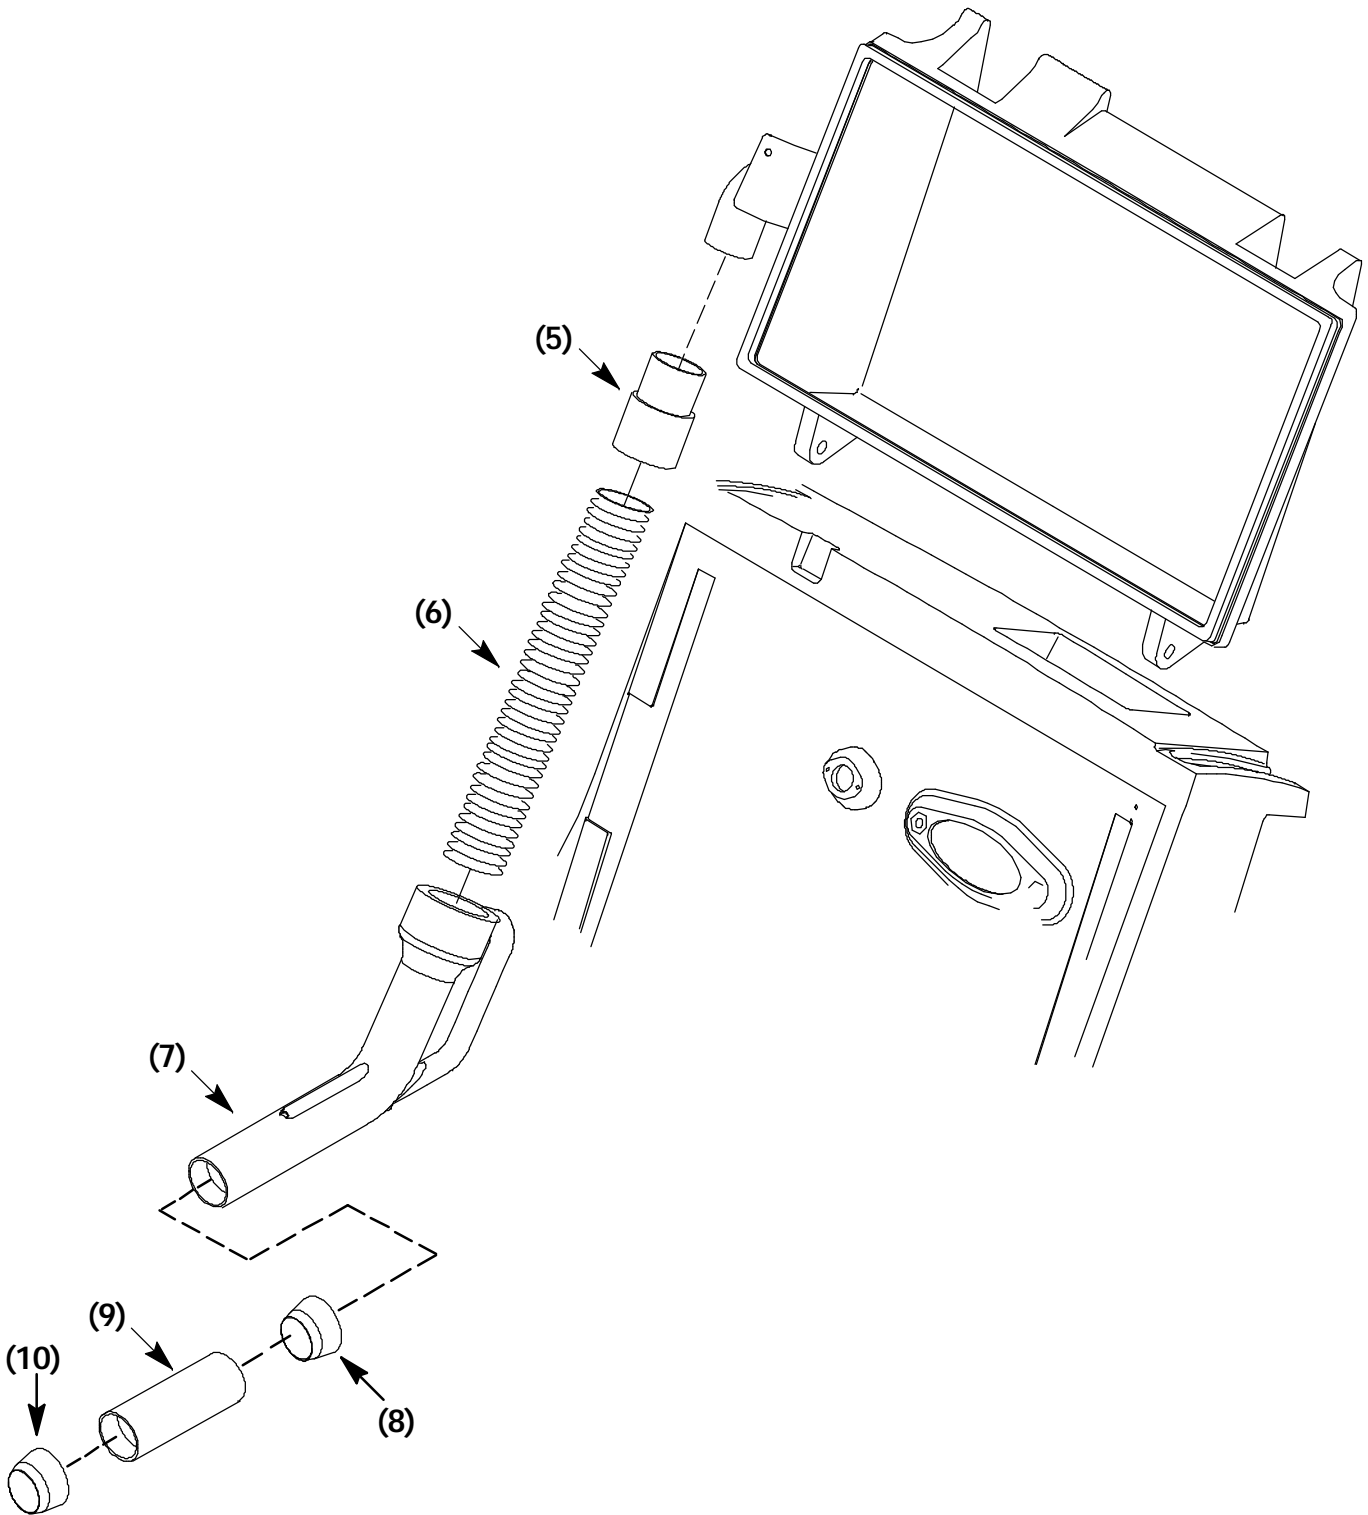

FIG. 1 - Vacuum Wand Assembly
(Refer to FIG. 1, 2, 3, and 4)
3. Thread the hose (6) into the hose cuff (5) and nozzle (7). (Refer to FIG. 1)
4. Position the vacuum wand coupling (8) onto the end of the nozzle (7). (Refer to FIG. 1)
5. Position the vacuum wand tube (9) into the coupling (8). (Refer to FIG. 1)
6. Position the vacuum wand coupling (10) onto the end of the vacuum wand tube (9). (Refer to FIG. 1)
8. When the vacuum wand assembly is not in use--remove the tube (9) and couplings (8 and 10) from the nozzle (7) and place all of the parts into the power wand bag (1) on the machine cover.